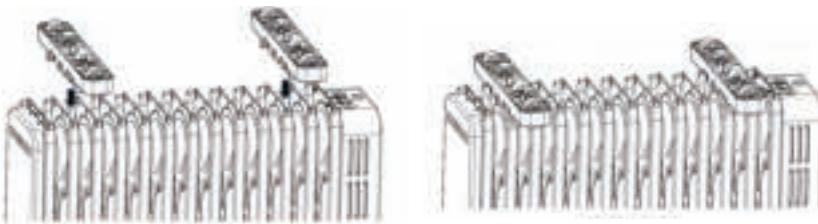

FIG.1
- ① **WARNING:** Do not operate the appliance without the feet attached. Only operate the heater when it is in an upright position (feet on the bottom, controls on the top). Operating the heater when it is in any other position could create a hazard.
- ② Make sure the radiator is turned off and unplugged.
- ③ Turn the body upside-down and make sure it is stable and will not fall.
- ④ Align the mounting buckles of the caster components with the holes on the radiator. Press in the direction of the arrow. The buckle on the caster will drop into the hole on the radiator.(FIG.1)